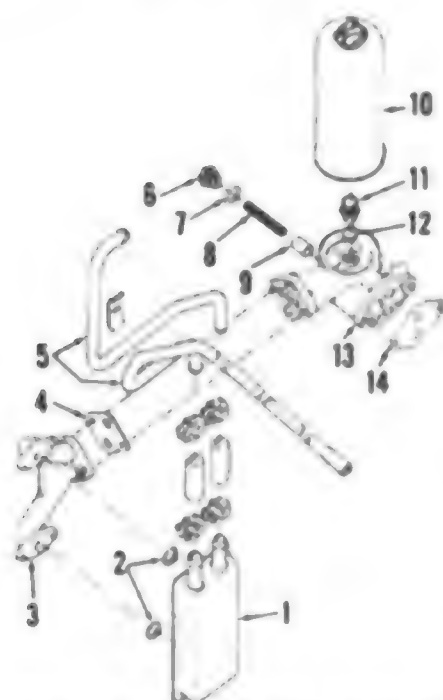

Fig. 47—Exploded view of engine oil cooler and oil filter assembly used on Model 884. Oil cooler relief valve (6 through 8) is located in filter base (13).
53. An engine oil cooler is located on the right side of engine on Model 884 tractors and is attached to the oil filter base. See Fig. 47. The oil cooler relief valve (6 through 9) is located in the oil filter base (13). Inspect oil cooler relief valve (9) for freeness in its bore.